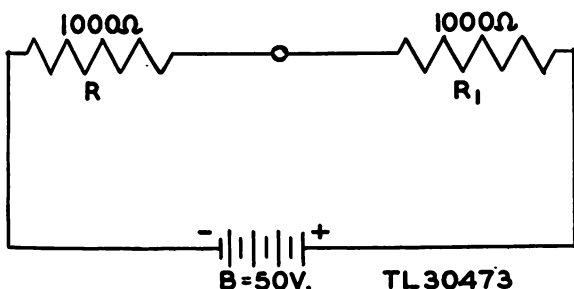

Figure 40. Voltage measurements functional schematic.
a. Voltage Distribution. (1) Figure 40 illustrates an applied voltage (battery) of 50 volts connected in a series circuit with two resistors of 1,000 ohms each, making the total resistance 2,000 ohms. As